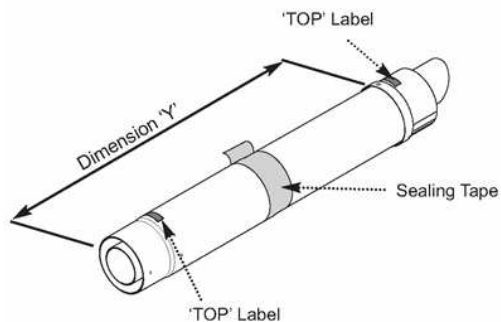

Fig. 26
8. Adjust the two telescopic sections to dimension "Y" and seal the joint with the tape provided (Fig. 26). Ensure that the labels marked "TOP" on the Terminal and Connection Assemblies are uppermost.